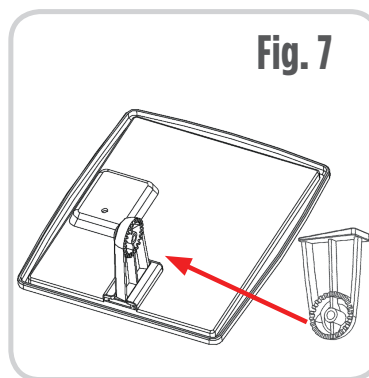

Fig. 7
- Attach Part B to Part C **(Fig. 7)** and secure with screw cap (Part H).